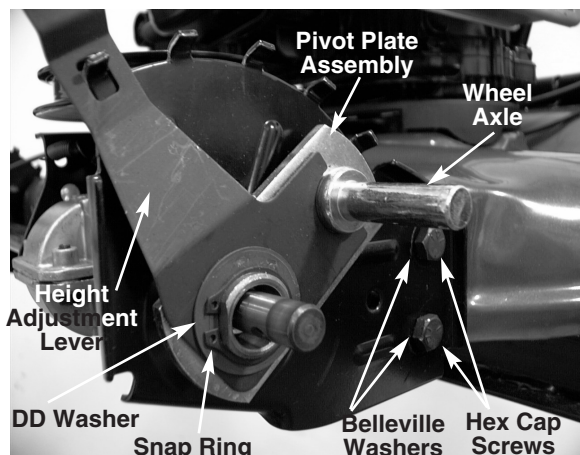

FIGURE 1.
1. Remove the snap ring, DD washer, height adjustment lever and pivot plate. See figure 1.